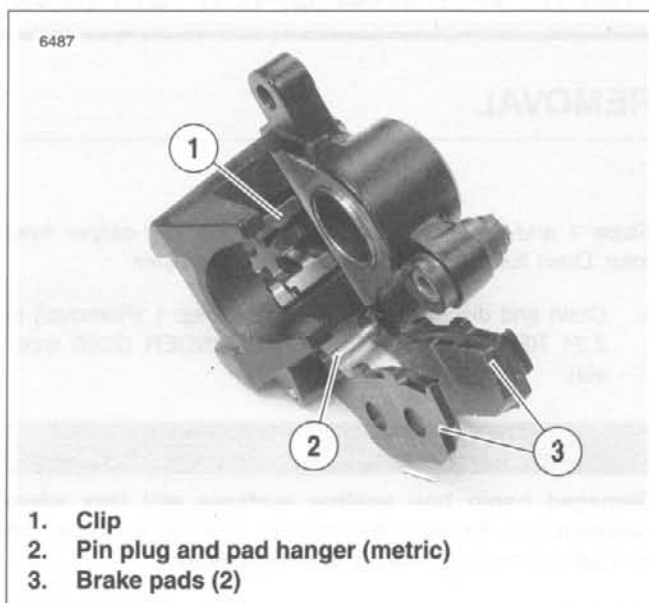
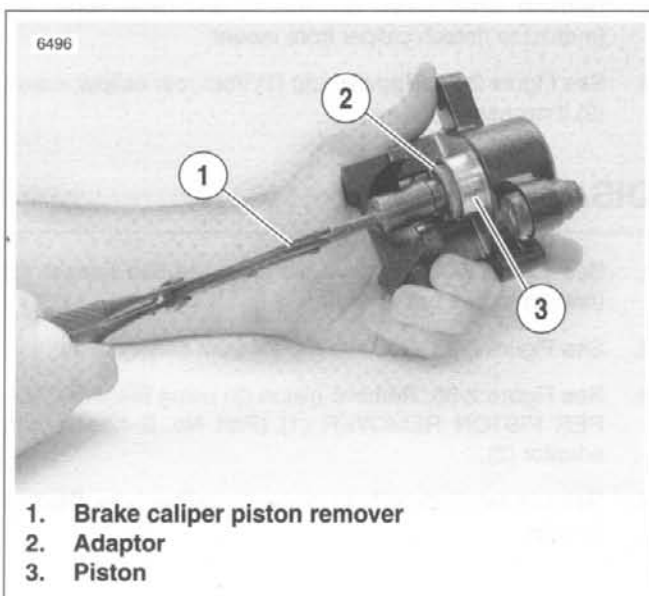

Figure 2-85. Brake Pads
Figure 2-86. Removing Rear Brake Caliper Piston
2. See Figure 2-85. Remove clip (1) from caliper body.
3. See Figure 2-86. Remove piston (3) using BRAKE CALIPER PISTON REMOVER (1) (Part No. B-42887) with adaptor (2).
1. See Figure 2-85. Place clip (1) inside caliper body as shown.
2. See Figure 2-86. Install pistons and O-rings.
- c. Install piston (3) inside caliper body.
3. See Figure 2-85. Install brake pads (3) using pad hanger and pin plug (2).